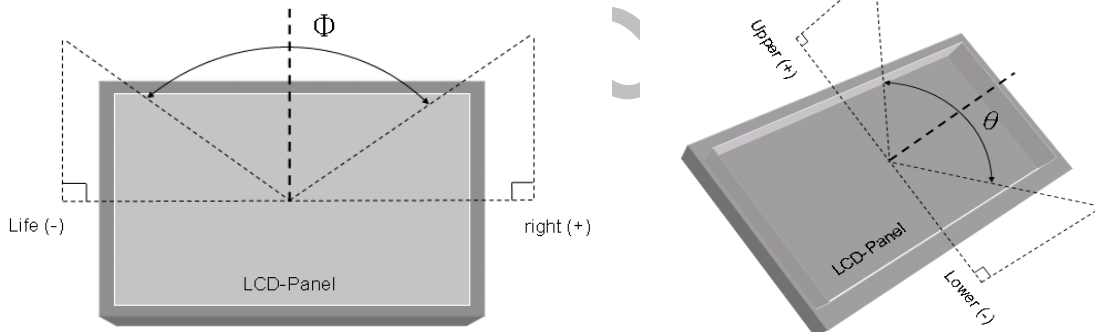

Fig8-2 Definition of Viewing Angle
*5) Definition of Viewing Angle(θ, ψ), refer to Fig8-2 as below :